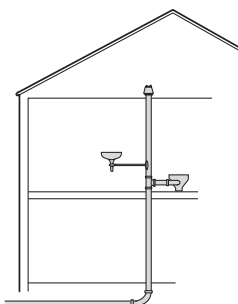

Fig.23b Valve in roof space
- Typically positioned in roof space (Fig.23b) but may also be fitted within a room